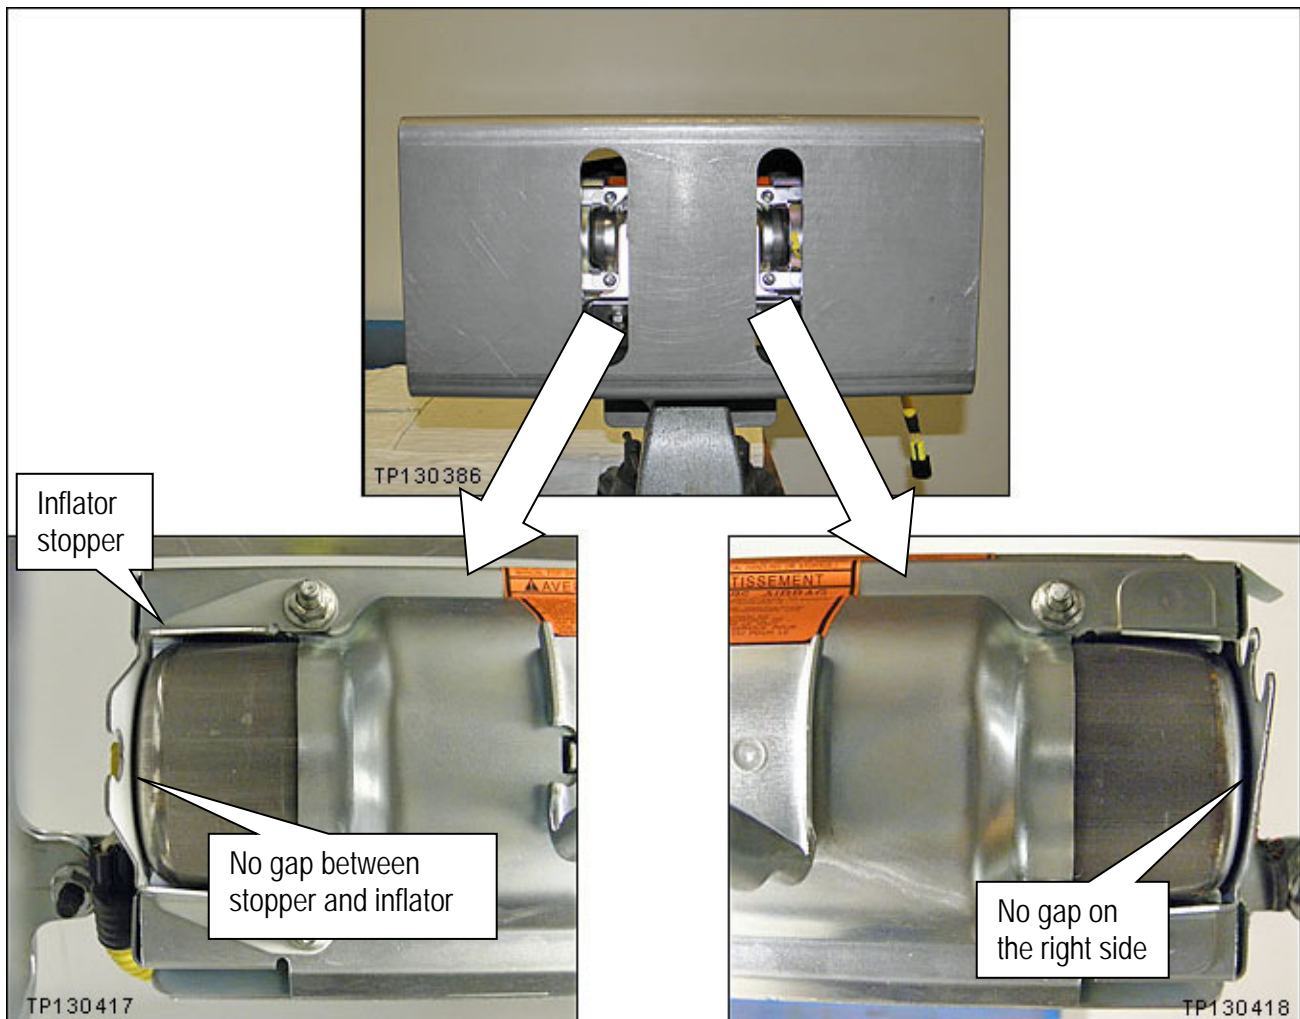

Figure F15
18. Install the inflator stopper and 4 inflator securing nuts finger tight (see Figure F15).
19. Make sure the inflator is pushed all the way into its housing – no gap on the right side (see Figure F15).
20. Make sure there is no gap between the inflator stopper and the inflator on the left side (see Figure F15).